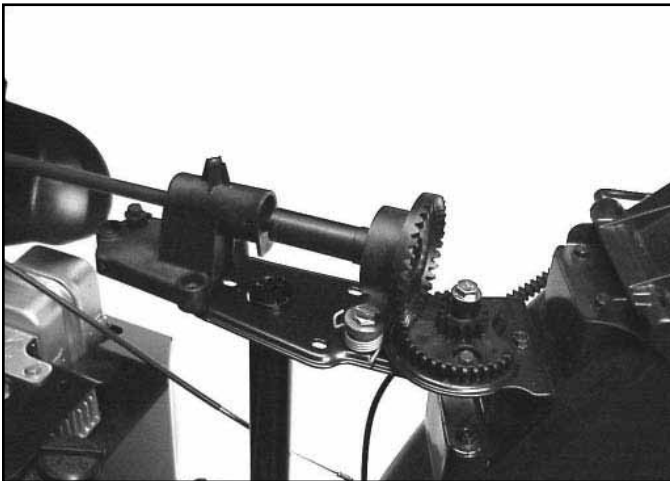

Fig 224
3. Slide the face gear mount on the chute rod, if removed. Slide the face gear on the chute rod (Fig. 224).